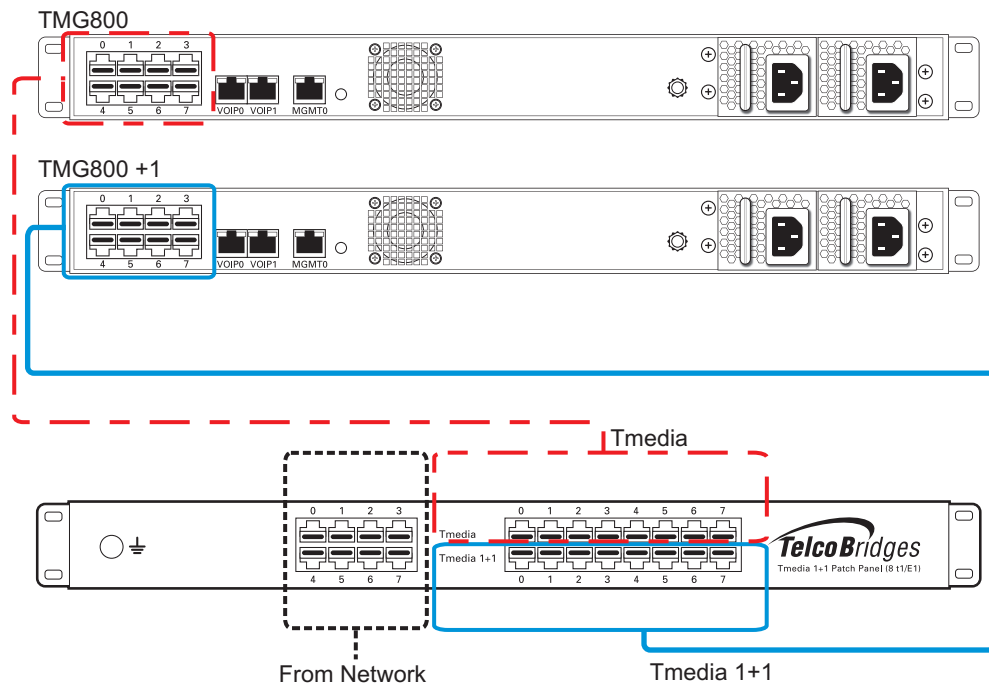

Figure 2.10 TMG800 and TMG800 +1 connecting to the 1+1 patch panel (8/T1/E1)
1. Connect T1/E1 lines 0-7 of the network section of the patch panel to the remote equipment. See figure 2.10 on page 26.